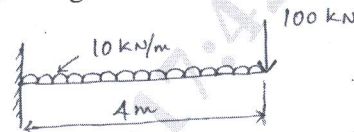

Fig. Q7(a)
- 7 a. Determine maximum deflection in the uniform cross section of cantilever beam shown in fig. Q7(a) by assuming beam as a single element. Take $E = 7 \times 10^9 \text{ N/m}^2$, $I = 4 \times 10^4 \text{ m}^4$.